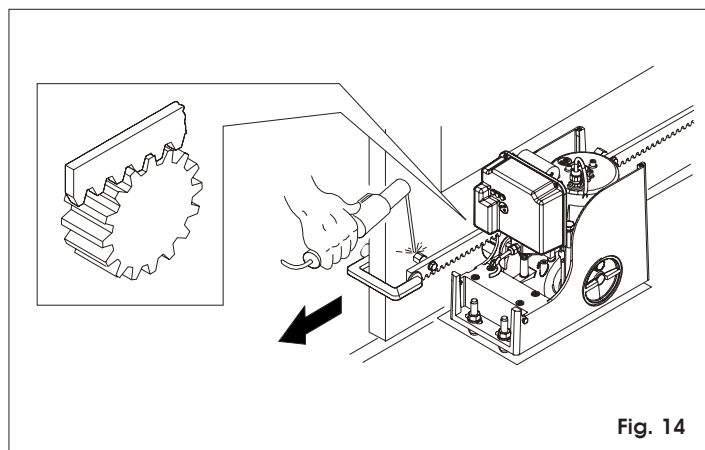

Fig. 14
- 3) Lay the first piece of rack level on the pinion and weld the threaded pawl on the gate as shown in figure 14.